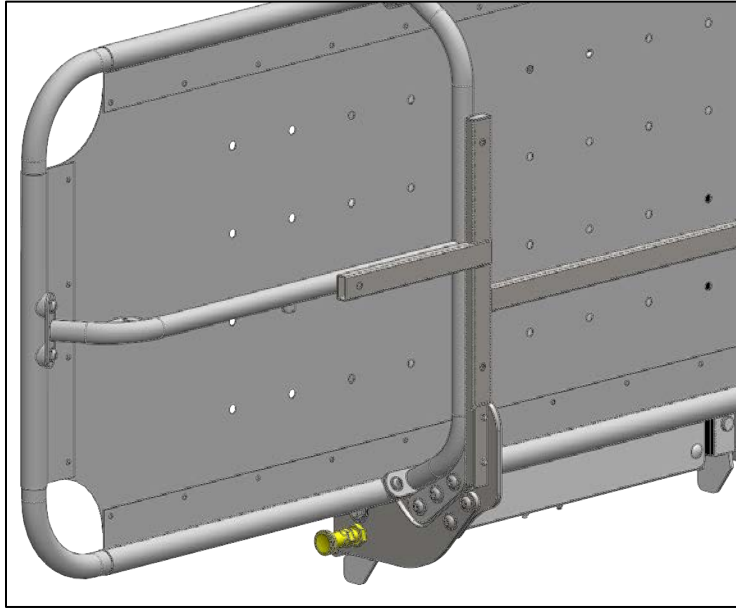

Fig.3
- Locate the plunger pin on the left-hand side of the shower stretcher (highlighted in Fig.3). With one hand on the drip tray frame, use your other hand to pull the head of the pin out, rotate it 90° and release it so that it stays in the unlocked position.
- Pull out the head of the plunger pin (shown in Fig.3). With the other hand, start to raise the drip tray.